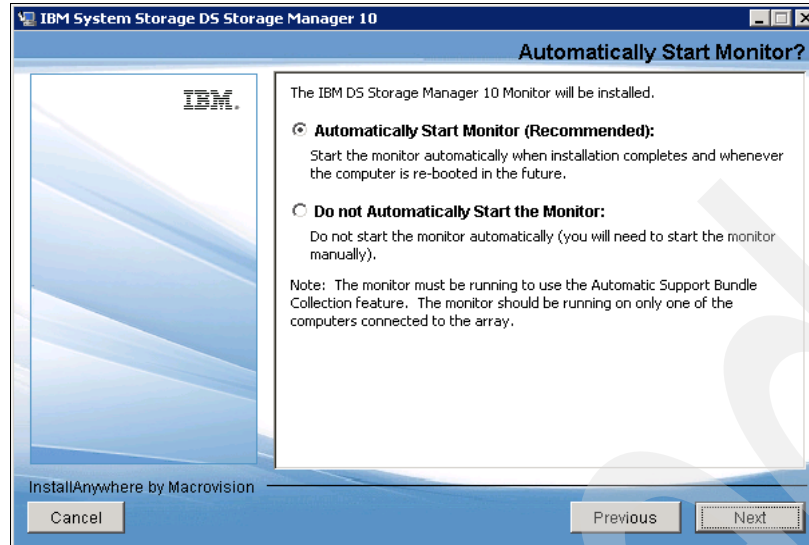

Figure 4-3 InstallAnywhere: Automatically Start Monitor
5. Decide whether you want to automatically start the Storage Manager Event Monitor, as shown in Figure 4-3, which depends on your particular management setup. In case there are several management machines, the Event Monitor must only run on one. If you want to use the Event Monitor with SNMP, you have to install the Microsoft SNMP service first, because the Event Monitor uses its functionality.